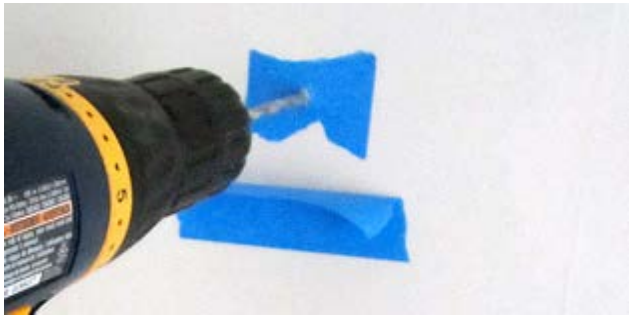

Figure 5 Apply tape over end of crack to protect the surface.
- a. Place masking tape over the end of the crack to protect the surface. Reference Figure 5.